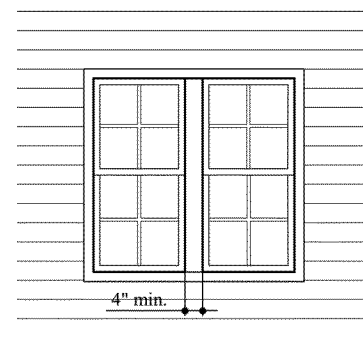

Figure 24
- » Two windows paired in the same rough opening should be separated by a minimum 4" nominal post (mullion). See Figure 24.